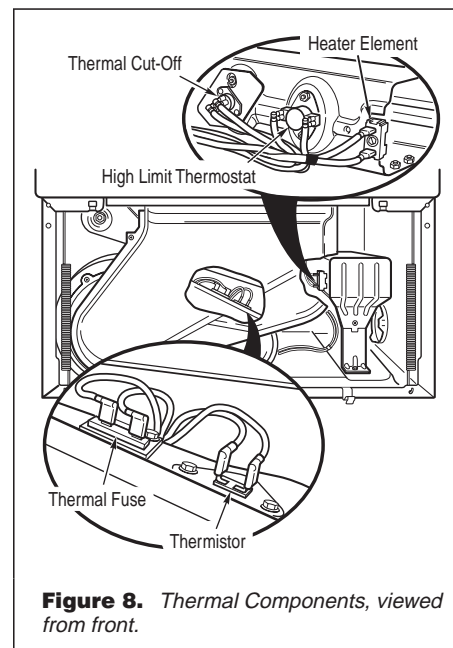

Figure 8. Thermal Components, viewed from front.
Remove the toe panel to access the thermal components. See figure 11, page 7. Locate the components using figure 8.
- ➔ **Unplug the dryer.** Check wire connections at the machine control electronics and thermistor. See Accessing the Machine Control Electronics, page 7, and figure 8 for thermistor location.
- If wire connections are good, remove the two wires from the thermistor and replace the thermistor. See figure 8. Plug dryer back into supply outlet.
Unplug the dryer. Access the thermal fuse by first removing the toe panel. See Removing the Toe Panel, page 7, and figure 8 for thermal fuse location.
3. Using an ohmmeter, check the continuity across the thermal cut-off. See figure 8 for location.